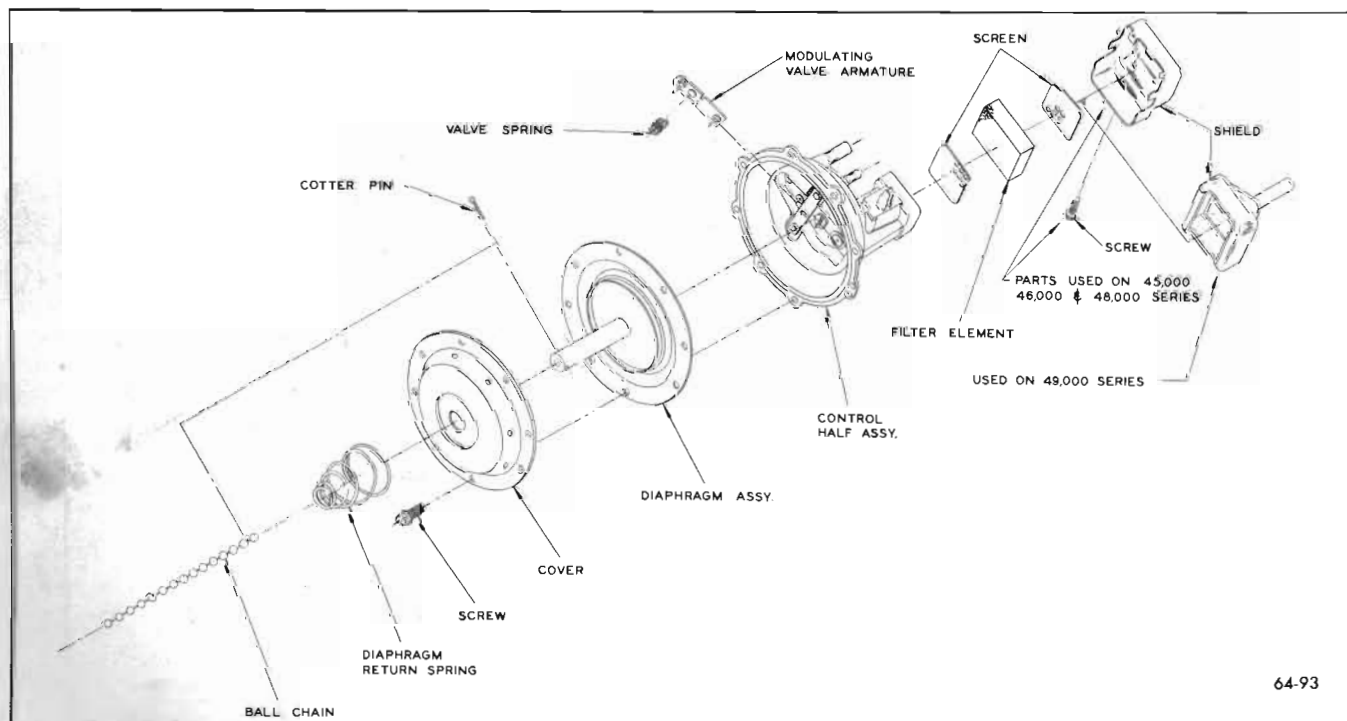

Figure 64-93—Exploded View of Power Unit
1. Disconnect forward end of bead chain by snapping it from ball. See Figure 64-93.